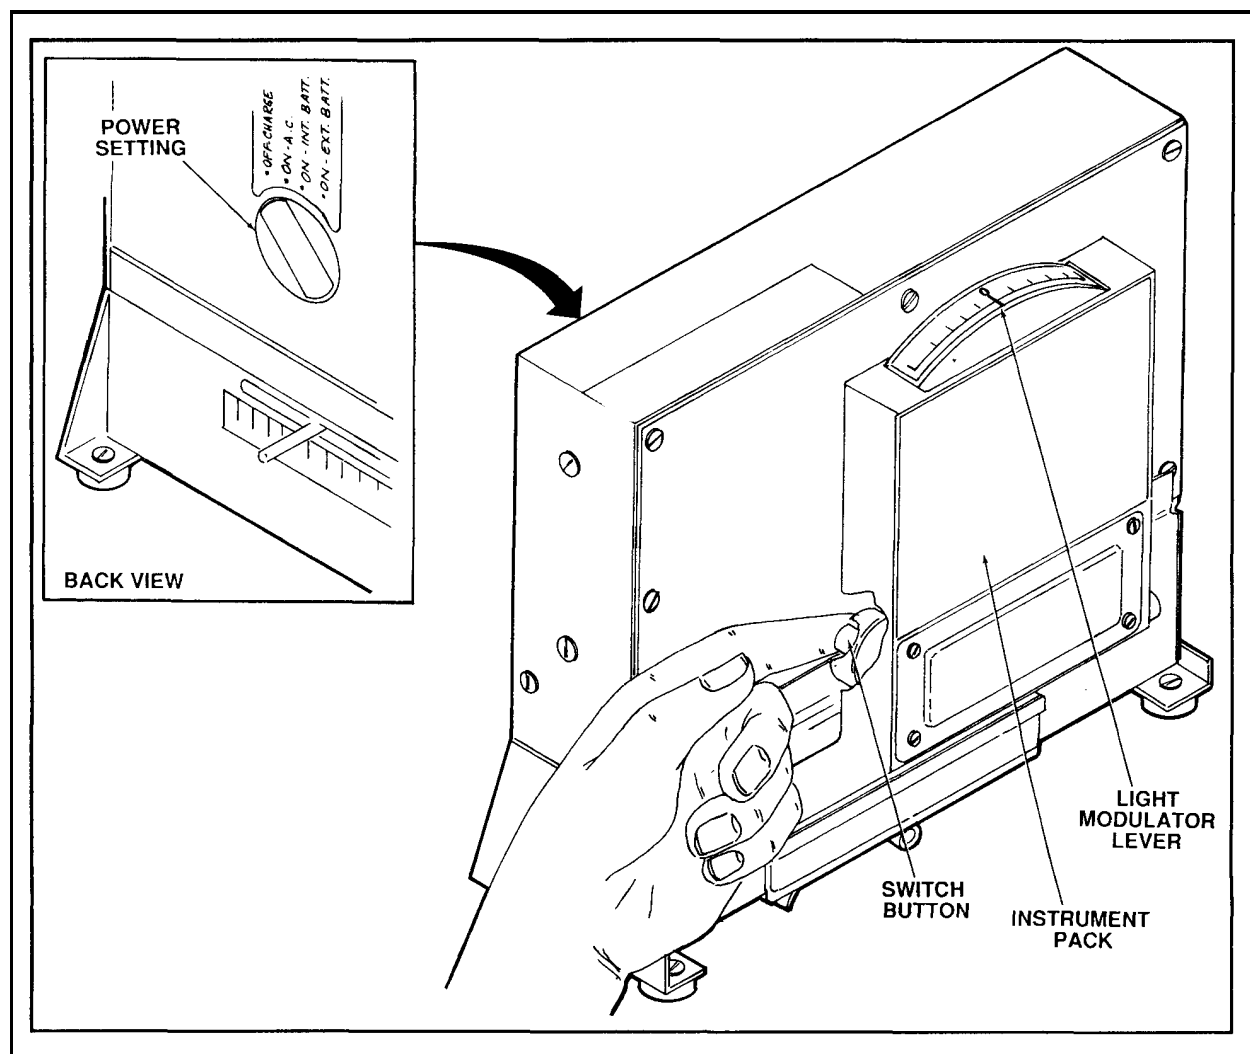

Figure E-8. Reading the undissolved water level
- Using tweezers, put the pad in the test pad slot in the bottom of the ultraviolet lamp assembly. Ensure that the orange side faces the ultraviolet lamp. Turn on the lamp. Press the hooded button of the meter assembly while moving the light modulator lever as shown in Figure E-8, page E-7. Watch the meter scale while moving the light modulator lever until the meter pointer points to zero. Always move the modulator arm in the same direction to avoid backlash. Release pressure on the hooded button and shut the lamp switch off when the meter pointer has settled on zero. The meter pointer should stabilize in about a minute.